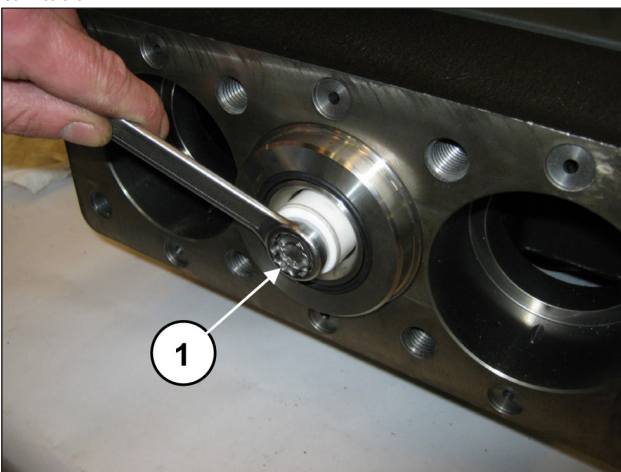

Fig. 166
Disassemble pistons unscrewing the fixing screws (pos. ①, Fig. 166).